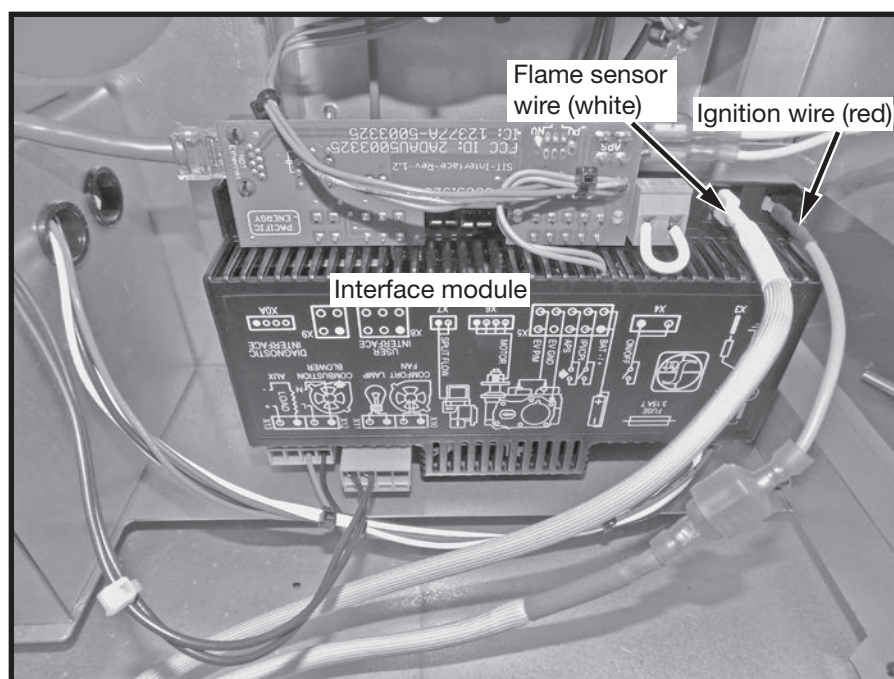

Figure 30: Disconnecting flame sensor and ignition wires at interface module.
5. Disconnect the flame sensor wire and the ignition wire from the interface module (Figure 30) and withdraw the wires back through the bulkhead plate and into the firebox area.